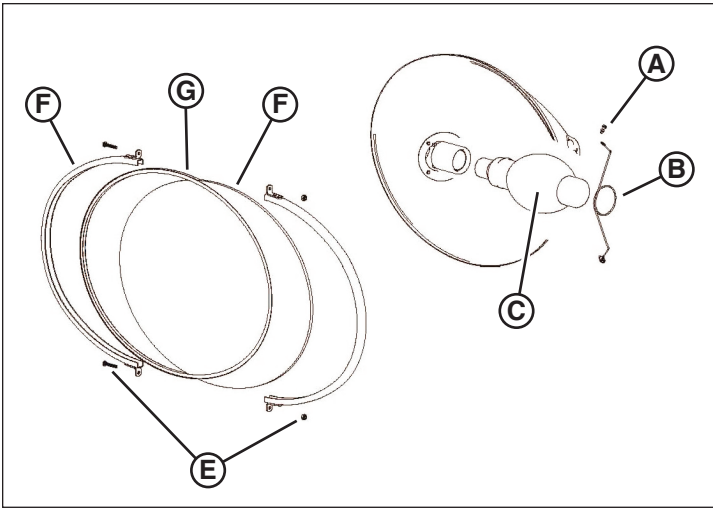

Figure 22
4. Loosen the lens channel screws (E, Figure 22) to allow the removal of the lens channel (F).
5. Remove the silicone gasket (G, Figure 22) and lens (H).
6. Remove the support clip screws (A, Figure 22) and support clip (B).
7. Carefully remove the old lamp (C, Figure 22), and install the correct replacement lamp. See **Specifications**.
8. Clean the reflector (D, Figure 22) and lens.